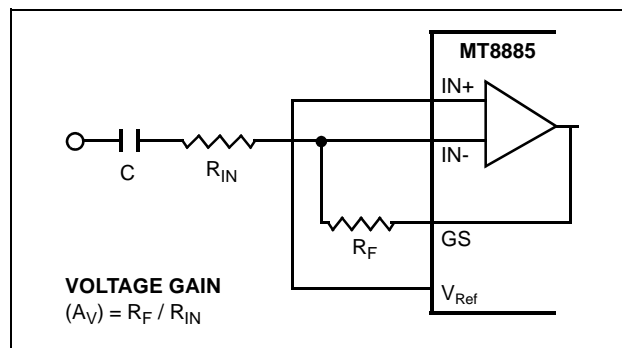

Figure 3 - Single-Ended Input Configuration
The input arrangement of the MT8885 provides a differential-input operational amplifier as well as a bias source (V_{Ref}), which is used to bias the inputs at $V_{DD}/2$. Provision is made for connection of a feedback resistor to the op-amp output (GS) for gain adjustment. In a single-ended configuration, the input pins are connected as shown in Figure 3.